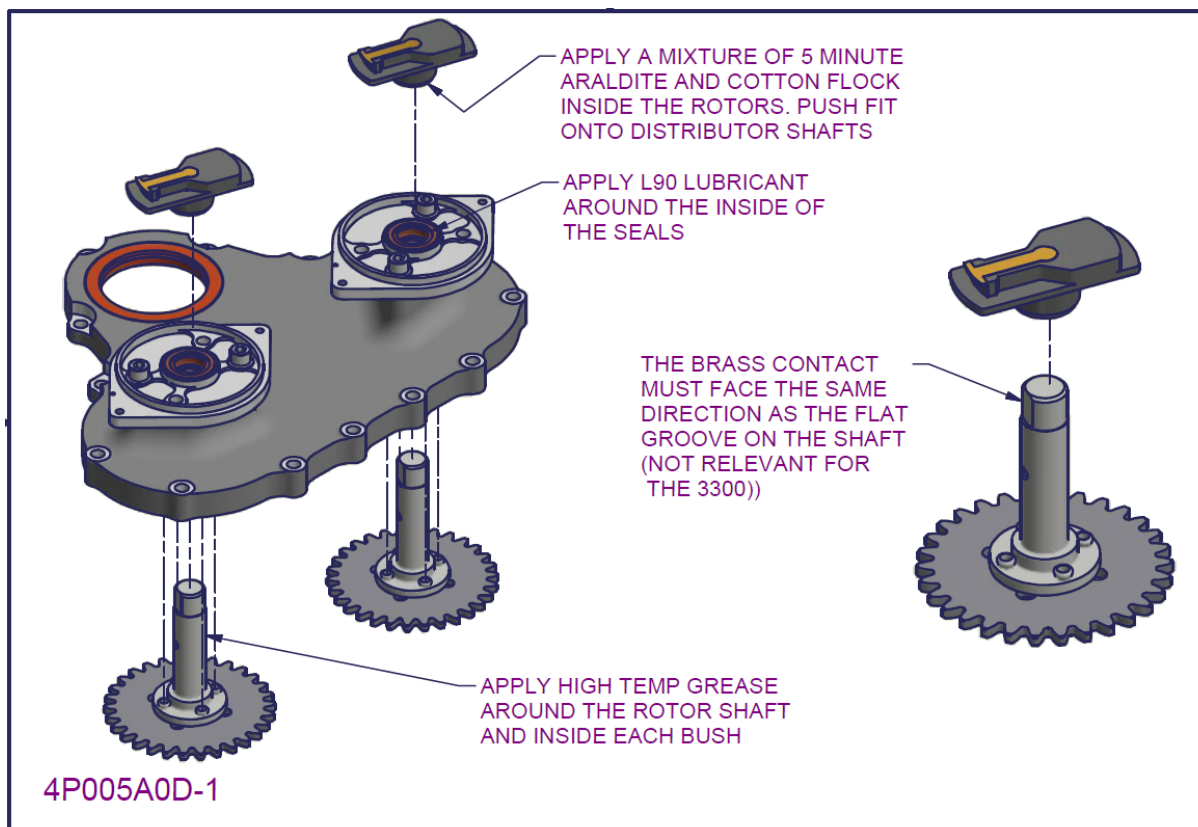

Figure 79 – 2200/3300 Distributor gearbox subassembly 5
- Ensure that the rotor is fitted on the distributor shaft with the flat face or machined groove and the brass contact plate pointing in the same direction (shown above in Figure 79)